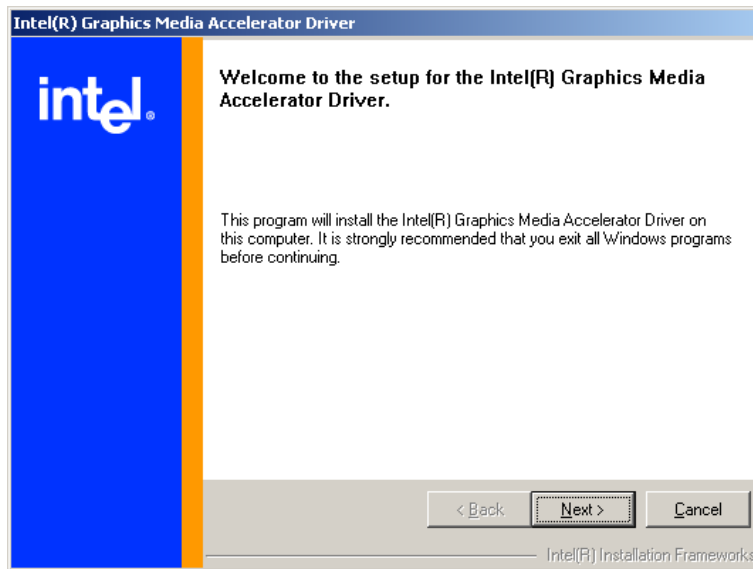

Figure 7-12: Intel® Graphics Media Accelerator Driver Welcome Screen
Step 9: The **Graphics Media Accelerator Driver Welcome** screen appears (Figure 7-12).